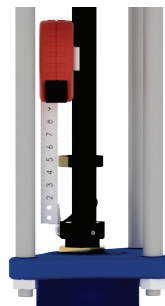

Figure 19
3.4.6) Tighten the stop collar to the correct measurement (see Figure 19).